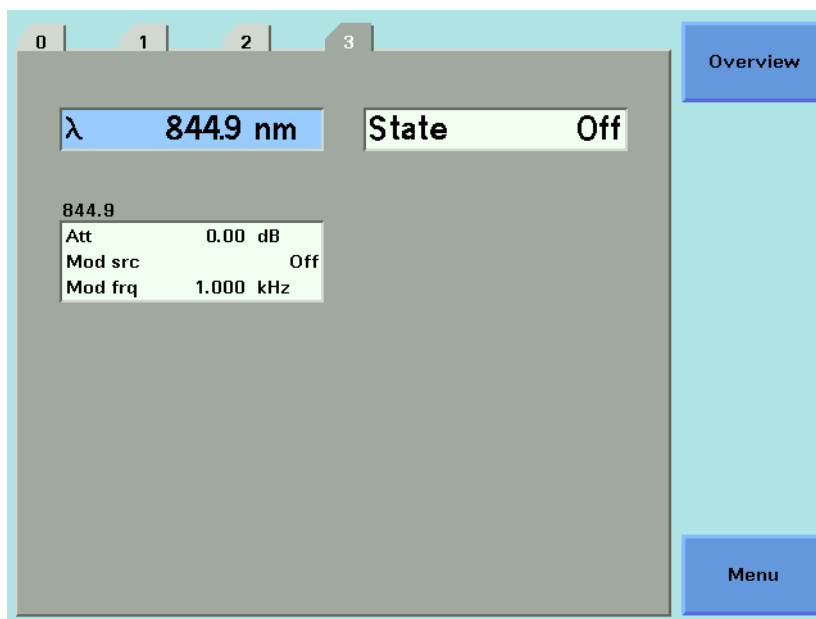

Figure 60 The Power Sensor Details Screen
- 1 Move to the laser source channel and press the [Details] softkey. You see the screen in Figure 60 .